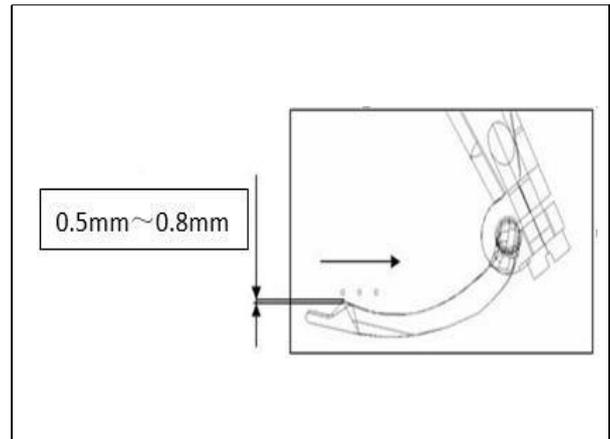

Figure 7-7
- (2) Adjust the gap between the left needle and the tip of the upper feed fork② to 0.5–0.8mm. (Figure 7-7)